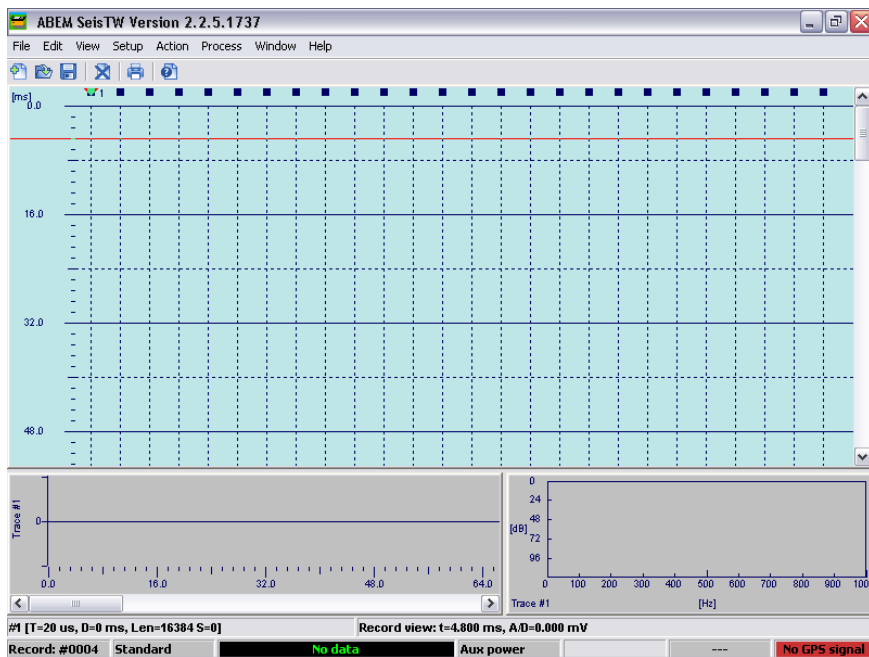

Figure 18 The red timeline
- Moving a timeline across the view (Figure 18)